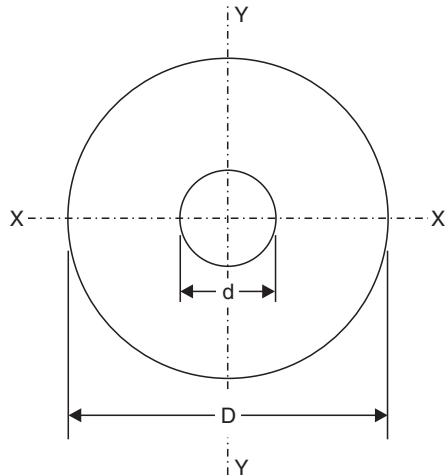

Fig. 8.13
**5. Moment of inertia of a circular lamina with a centrally situated circular hole.** Refer to Fig. 8.13. Let  $D$  and  $d$  be the external and internal diameters of the lamina respectively.